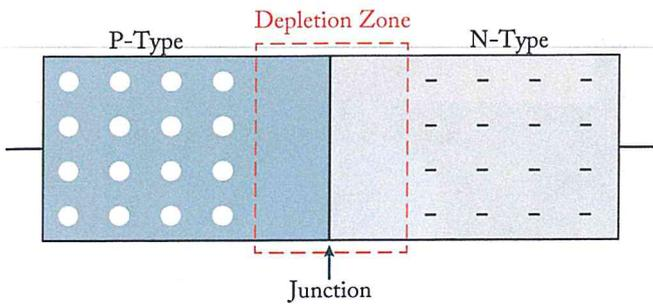

Figure 1-35. Unbiased varactor diode PN junction.
*Figure 1-35* shows a PN junction. Surrounding the junction of the P and N materials is a narrow region void of both positively and negatively charged current carriers. This area is called the depletion region.